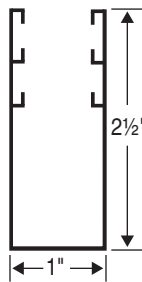

Figure 7
- ① "U" Channels come in 16' lengths and must be cut to the height required. Measure and cut extrusions to fit installation requirements (see Fig. 7).
- ② Drill holes in "U" Channels for mounting to wall or jamb.